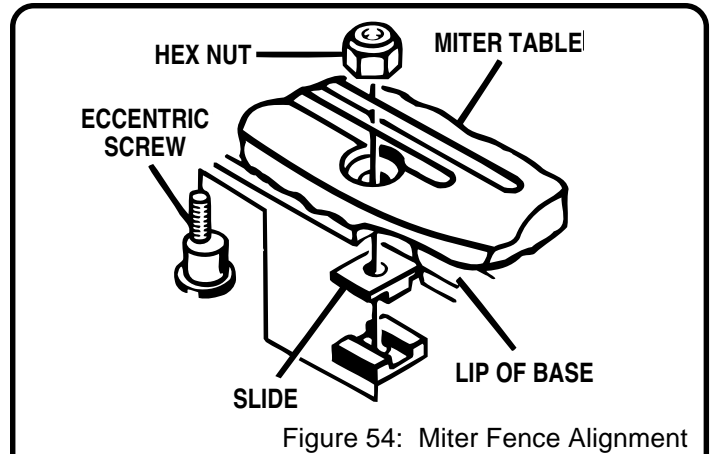
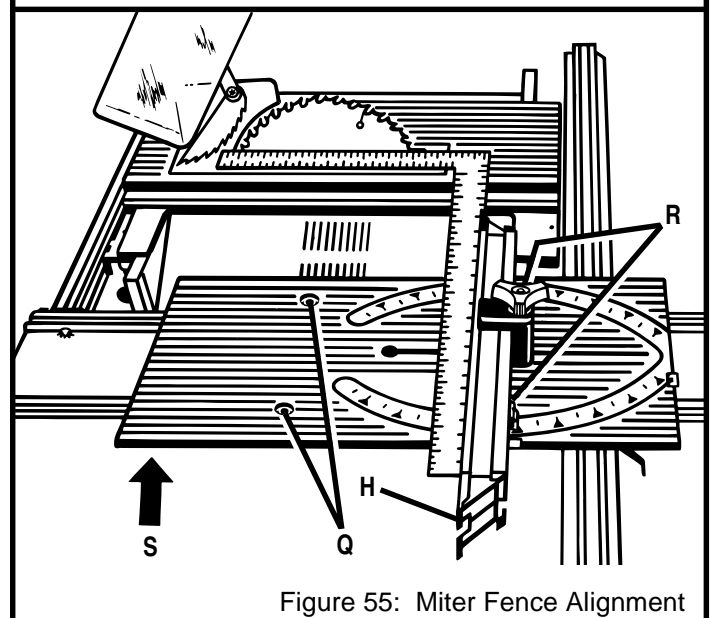

Figure 54: Miter Fence Alignment
Figure 55: Miter Fence Alignment
2. There are four slides located under the sliding miter table. These slides let the miter table move on the base. Three slides are mounted on eccentric screws that can be adjusted by loosening the hex nuts on top of the miter table. See Figure 54.
3. Loosen the rear hex nuts (Q) on top of sliding miter table for this adjustment procedure.
**NOTE:** The front screws (R) are only needed to remove excessive play in the slides due to wear from extended use. They are **not** needed for this procedure. The right front hex nut is a non-eccentric pivot and should never be loosened.
5. Push left rear of miter table snugly against miter base as shown by the arrow (S) in figure 55 and secure.